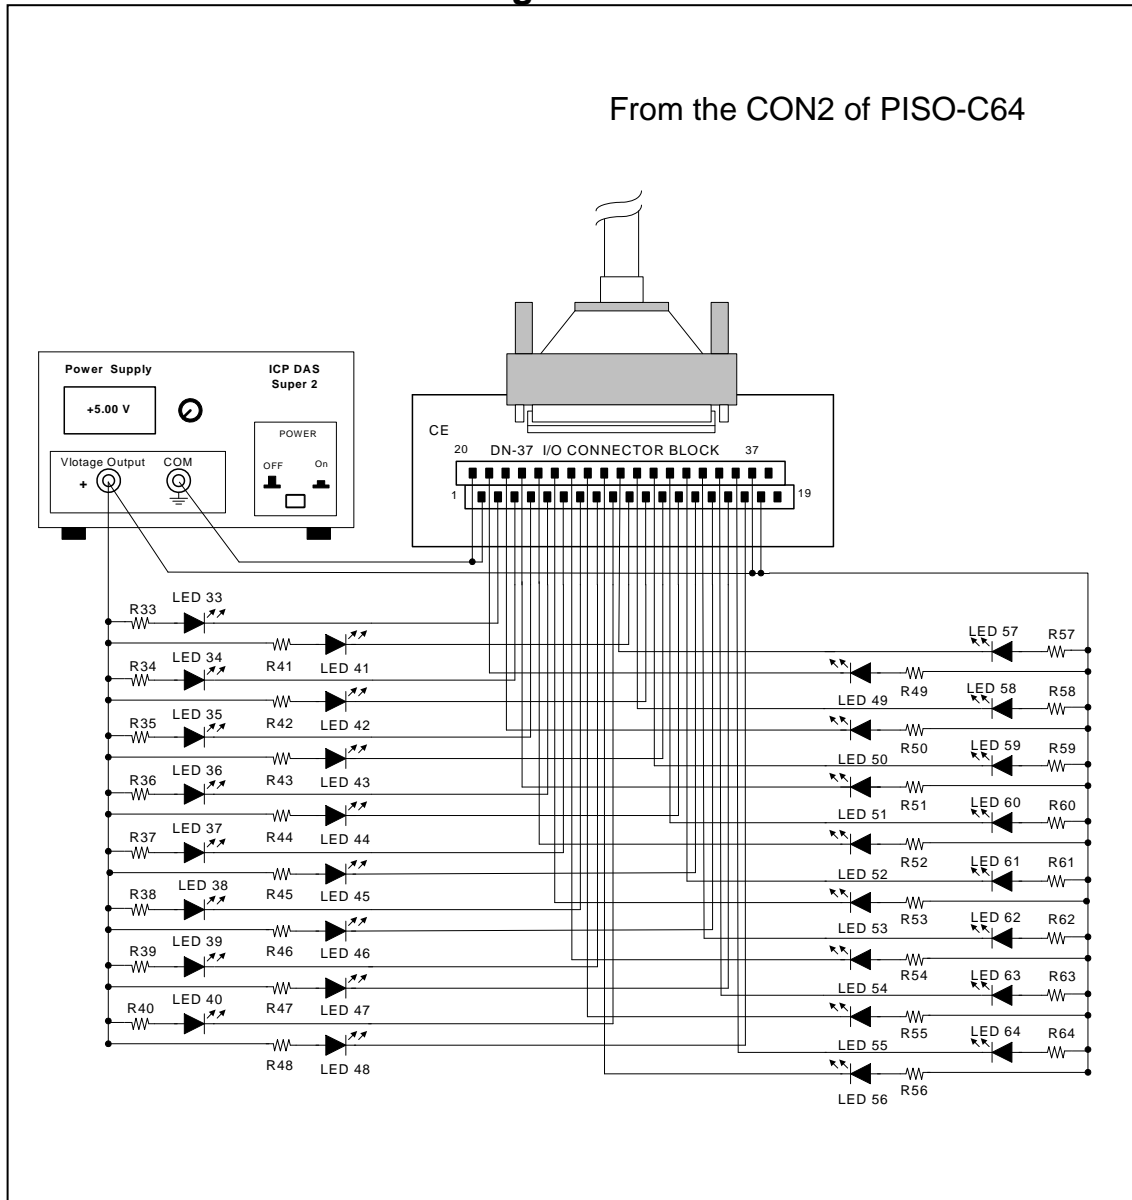

Figure 4-3-3. The circuit diagram of external device 2 for the digital outputs of PISO-C64
- Refer to Figure 4-3-3 for the circuit diagram of external device 2: